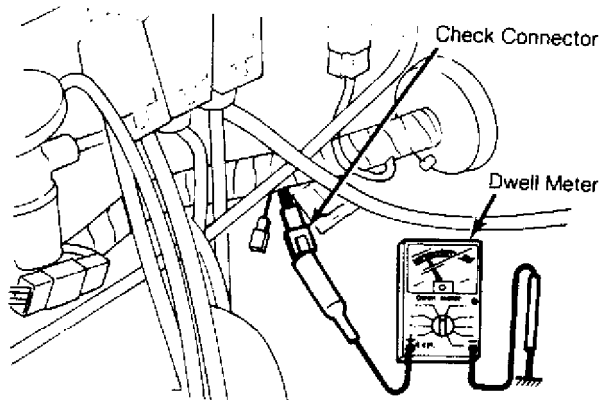

Fig. 10: Connecting Dwell Meter To Mixture Check Connector
2) Install air cleaner. Ensure idle compensator valve is closed. Warm engine to normal operating temperature. Connect dwell meter (on 4-cylinder setting) between ground and mixture check connector (Brown/Yellow wire). See Fig. 10.